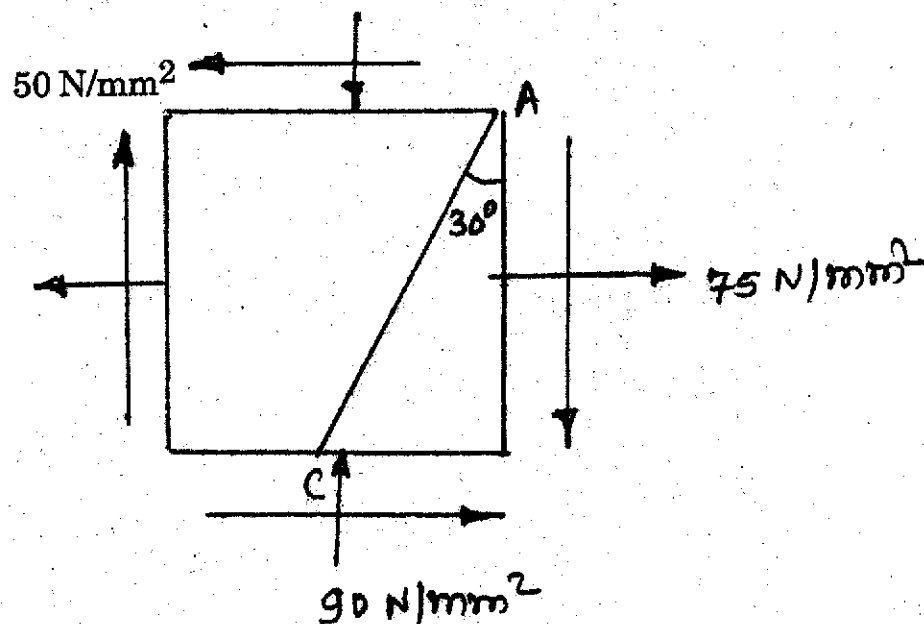

Fig. 9
6. (a) At a point in strained material, stress pattern is as shown in Fig. 9 by using Mohr's circle, determine :